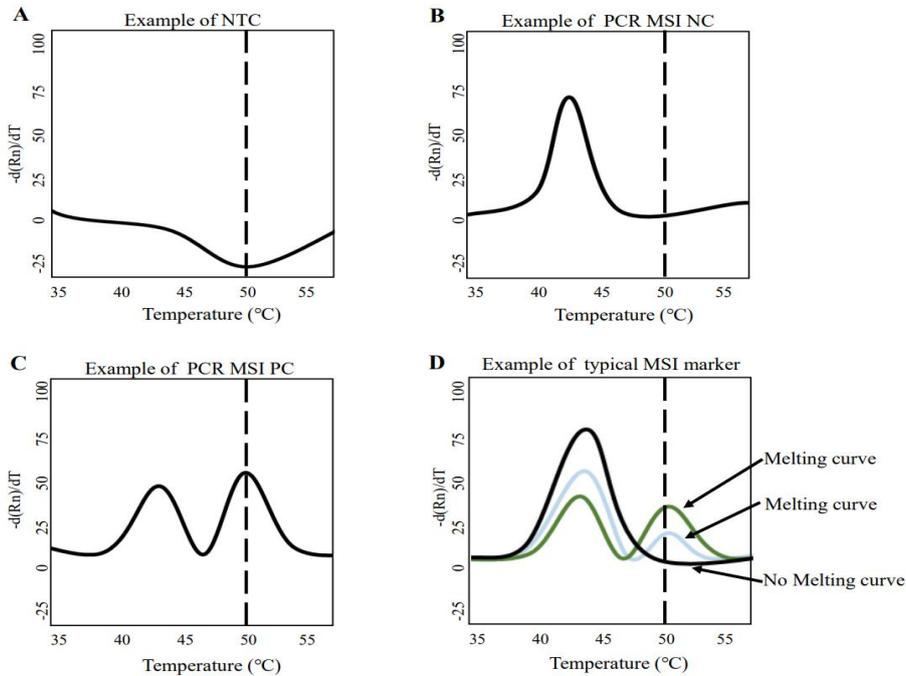

Figure 1 Examples of melting curve for different results
8) Examples of melting curve for different results are listed in Figure 1.